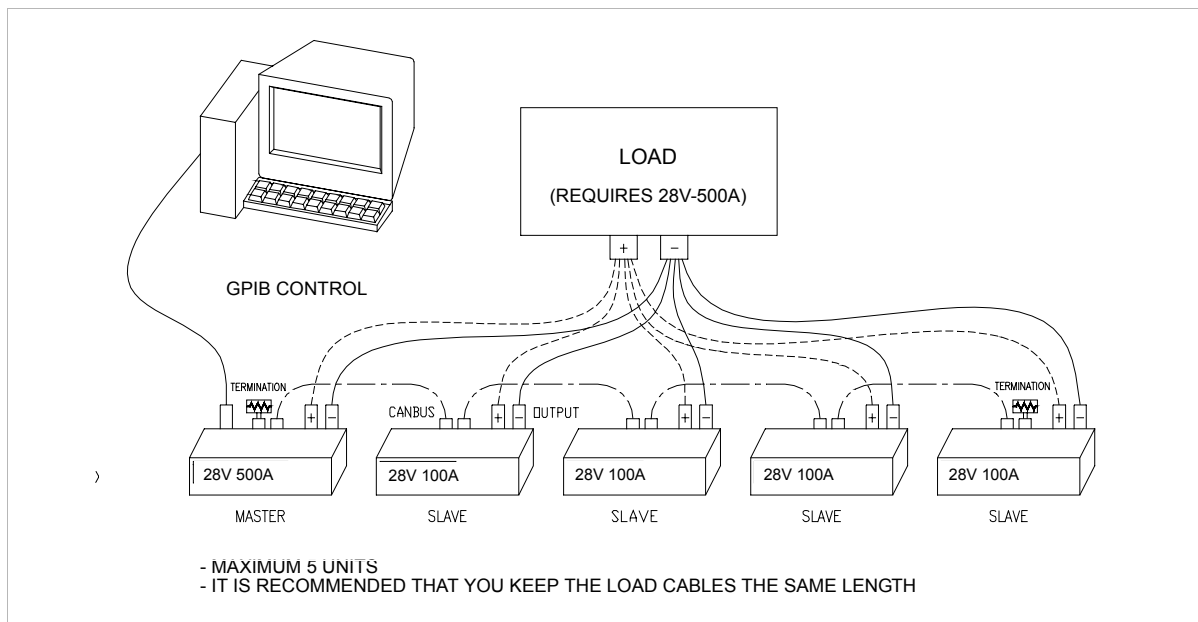

Figure 5.1 Example of Current Share Operation
3. Make load connections. It is recommended to keep load cables the same length if possible. See Figure 5.1.